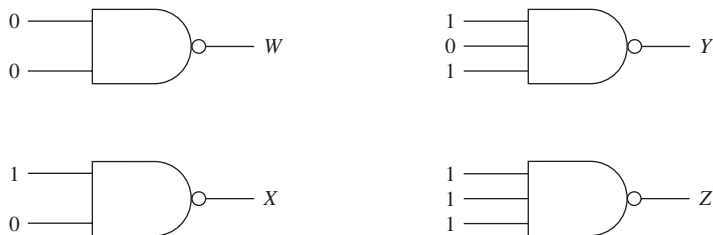

Figure P29
29. Determine the logic levels at W , X , Y and Z in Figure P29.